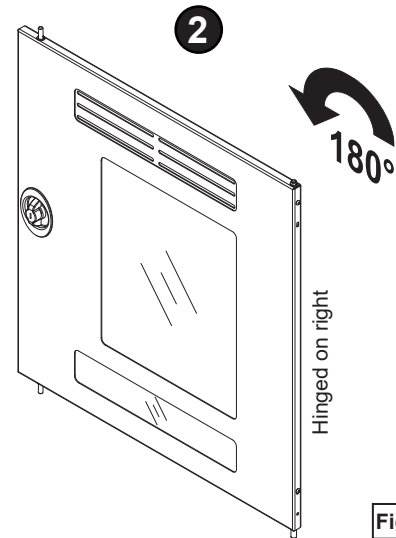

Figure 3.3
2. Rotate the door 180°. **Figure 3.3.**